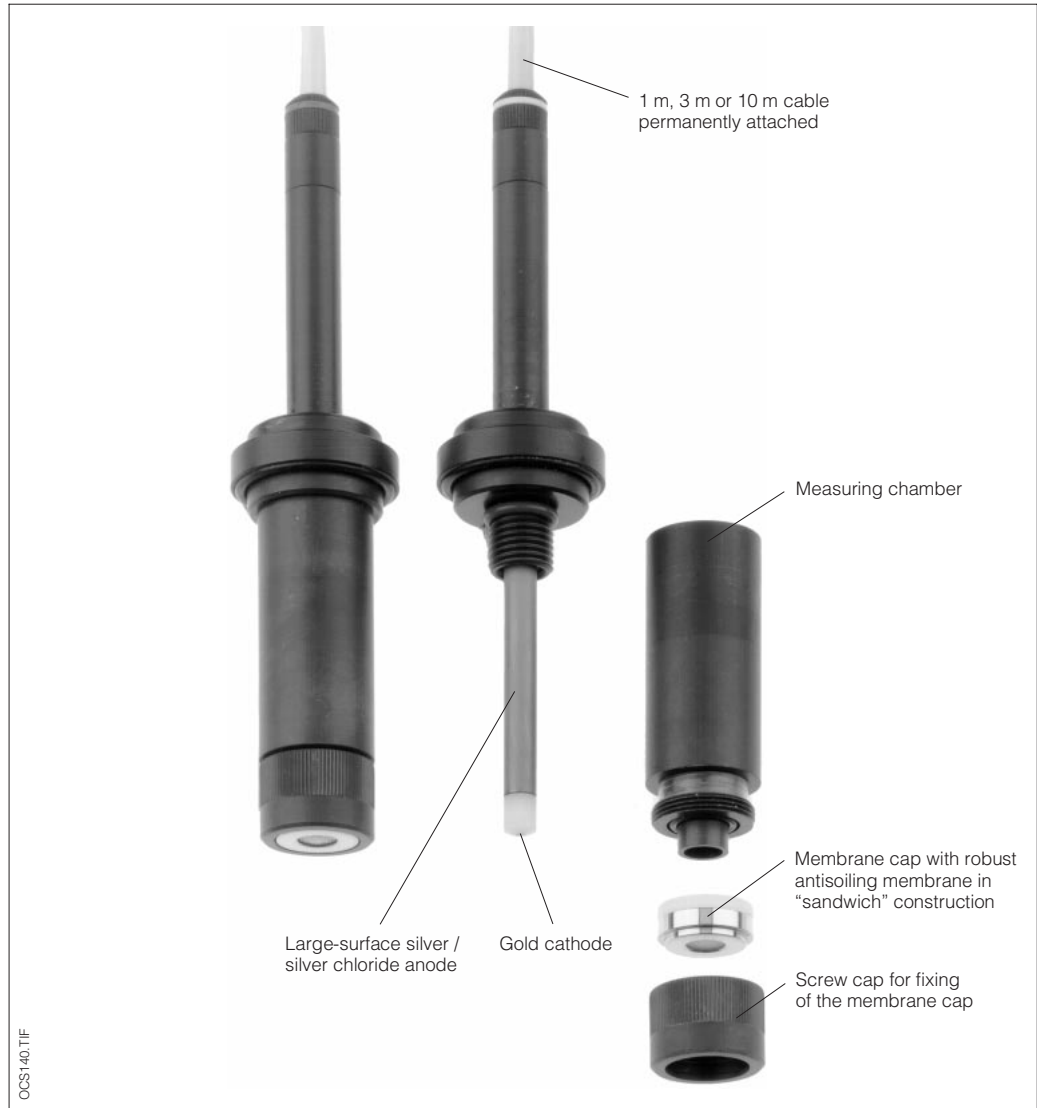

Fig. 2.3 Chlorine sensor OCS 140 or OCS 141 in operating state and dismantled into components
The chlorine sensor OCS 140 or OCS 141 is easy to handle and can be dismantled into components for filling, to replace the diaphragm or for regeneration (see Fig. 2.3). The measuring electrodes are located in a measuring chamber sealed off from the medium, separated by a PTFE membrane which is extremely resistant both chemically and mechanically.
- First unscrew the measuring chamber, then the front screw cap (see Fig. 2.3).